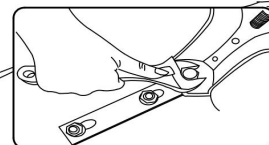

Figure 5
- ③ Tighten all of the nuts so that the feet are secured to the metal bar and the metal bars are secured to the bath. See Figure 5